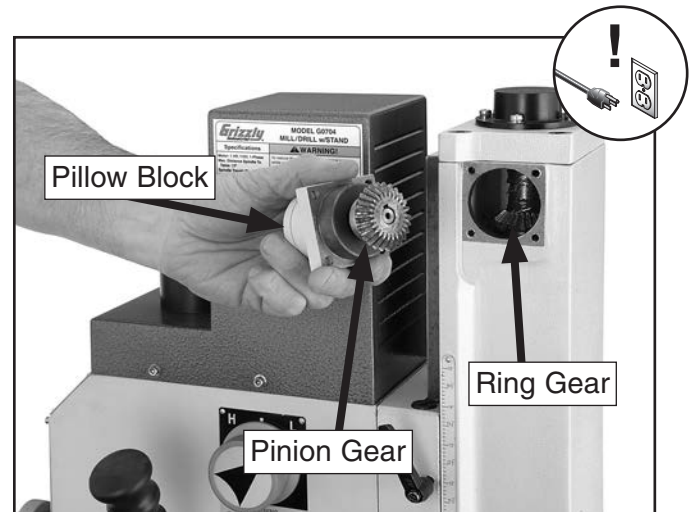

Figure 53. Handwheel gears.
6. Remove the four cap screws that secure the handwheel shaft pillow block, then carefully remove the assembly (**Figure 53**).